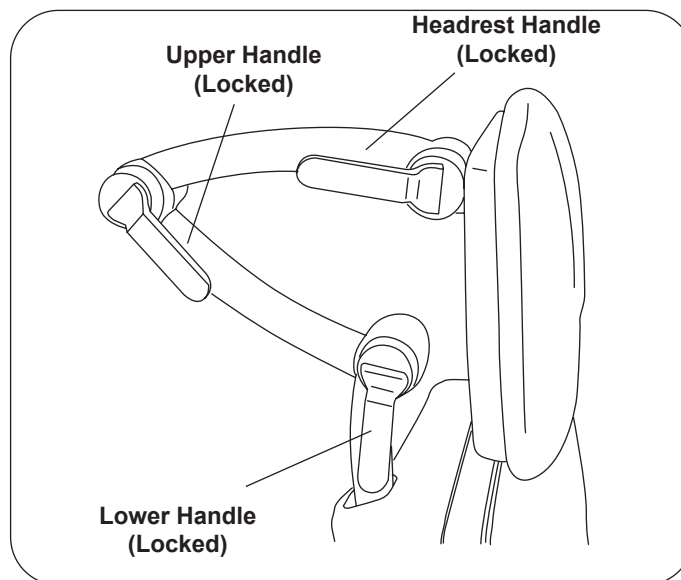

Figure 10. Headrest Handles
1. To move the headrest, rotate the three handles to their open position. Move the headrest to its desired location. Rotate the 3 handles to their locked position as shown in Figure 10.